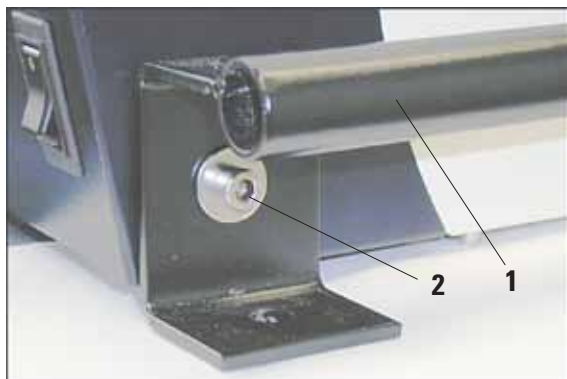

Fig. 5
- To lift, grip the instrument by the carrying handles (1, Fig. 5).
- Unscrew the carrying handles (remove screws (2) with Allen key, size 6.0) and store away.